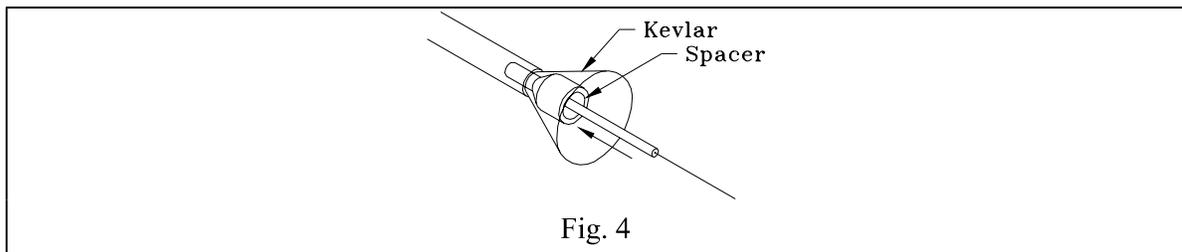

Fig. 4
Step 3 Insert the Spacer carefully onto the buffer of cable and push the Spacer all the way until it is stopped by the jacket, shown in Fig. 4.